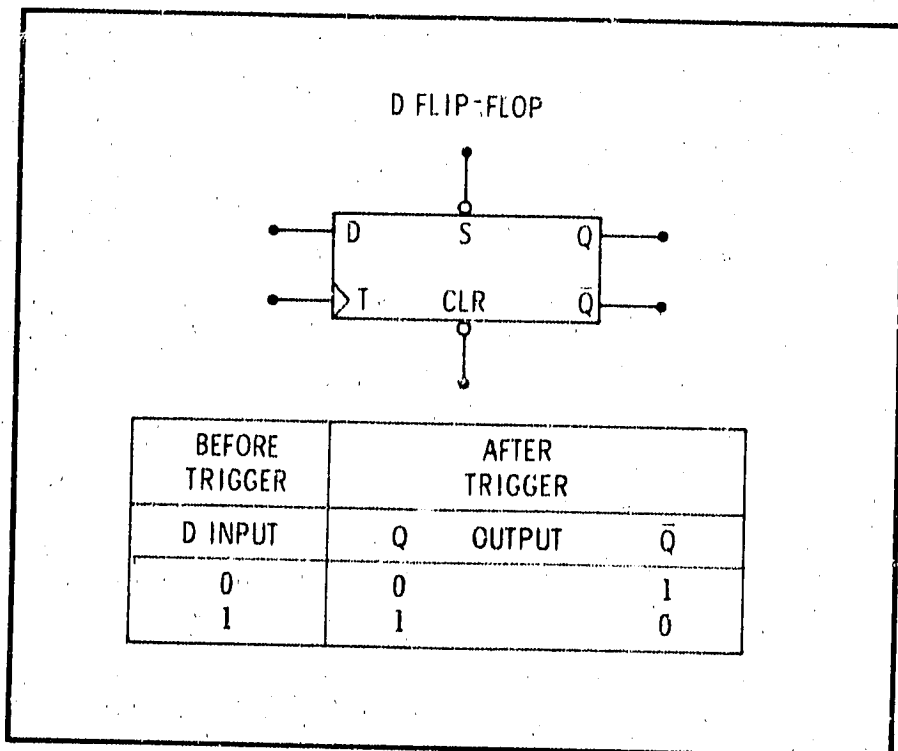

Figure 8-6. D Flip-Flop
8-46. D Flip-Flop. The D-type flip-flop, shown in Figure 8-6, is used as a storage latch or buffer. The information at the data input (D) is transferred to the Q output when the trigger input (T) is high-going. Once the T input has passed its threshold, the D input is locked out and the Q outputs do not change until another high-going transition occurs at the T input.